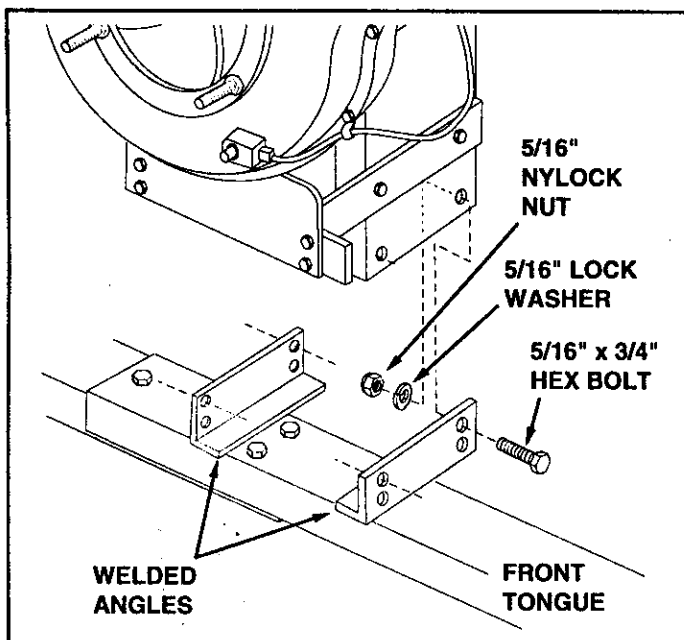

FIGURE 21
- Assemble the engine base assembly to the welded angles on the tongue using four 5/16" x 3/4" hex bolts, 5/16" lock washers and 5/16" nylock nuts. **Tighten** the bolts securely. See figure 21.